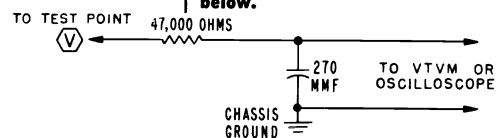

Figure 7. Decoupling Filter.
- Connect VTVM high side to test point "V" through a decoupling filter, see figures 7, and 11.